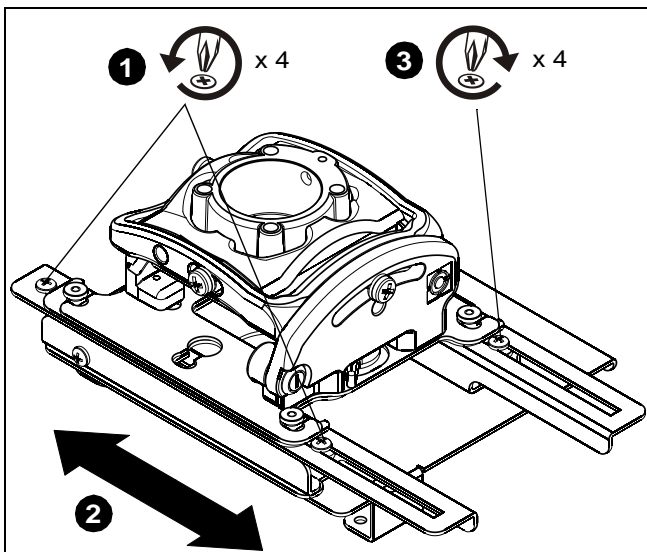

Figure 6
1. Loosen two Phillips screws on each LSB-101 bracket (A and B). (See Figure 6)
3. Tighten the Phillips screws as needed. (See Figure 6)